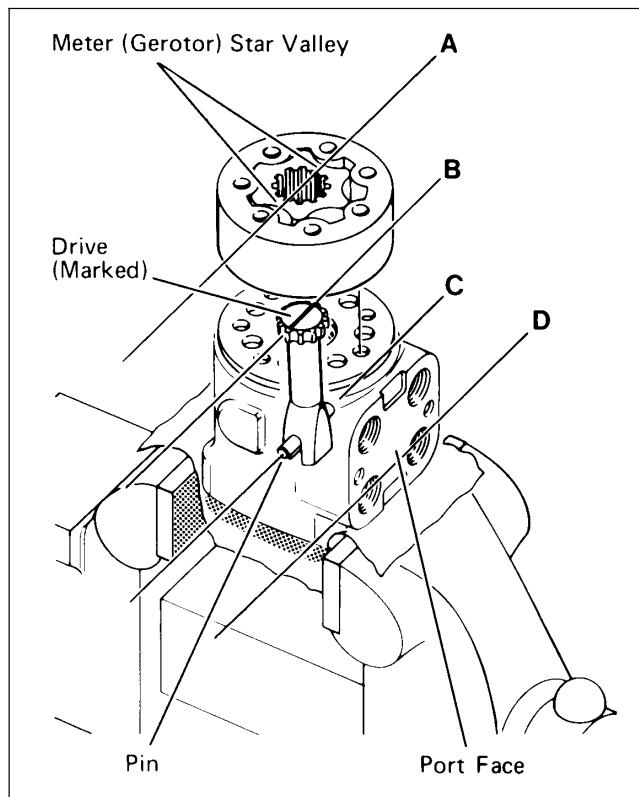

Figure 65
21. Rotate spool and sleeve assembly until pin is parallel with port face. Install drive, make sure you engage drive with pin. To assure proper alignment, mark drive as shown in Fig. 65 (ref. B). Note relationship between slotted end of drive to splined end of drive when marking.